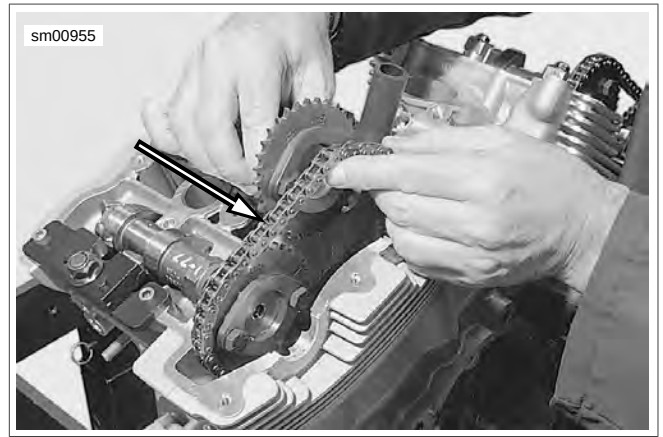

Figure 3-24. Cam Drive Chain (typical)
21. See Figure 3-24. Roll chain over cam drive gear. Lift cam and drive gear from head.